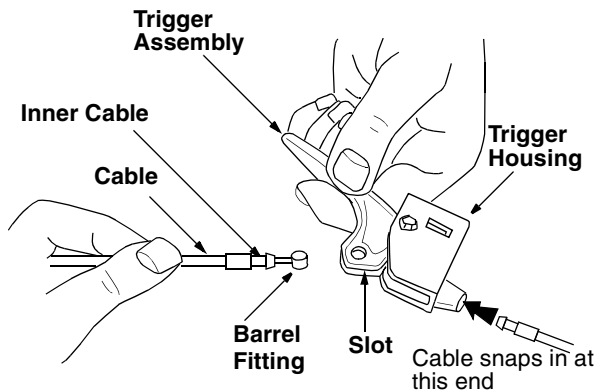

Figure 12
- Place the cable barrel fitting into the hole in the trigger. You can find the triggers and associated hardware in group H of the hardware pack (on page 5). Pull on the cable and rotate it around the bottom of the trigger, with the inner cable in the slot, until the cable end can be pushed into the trigger housing and snapped tight. See Figure 12.